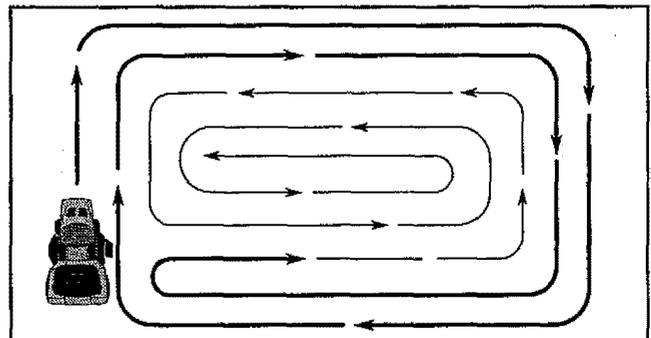

FIG. 8
- When mowing large areas, start by turning to the right so that clippings will discharge away from shrubs, driveways, etc. After one or two rounds, mow in the opposite direction making left hand turns until finished (See Fig. 8).